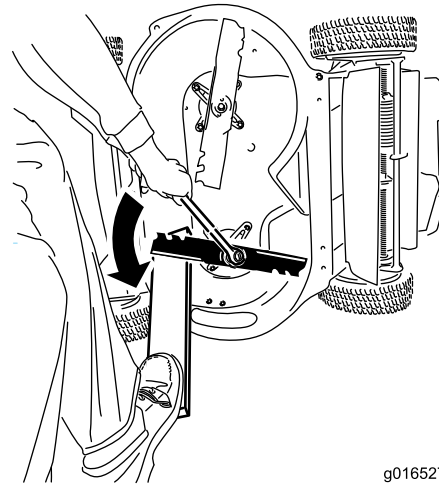

Figure 42
1. Use a block of wood to hold each blade steady and turn the blade bolt counterclockwise as shown in Figure 42.